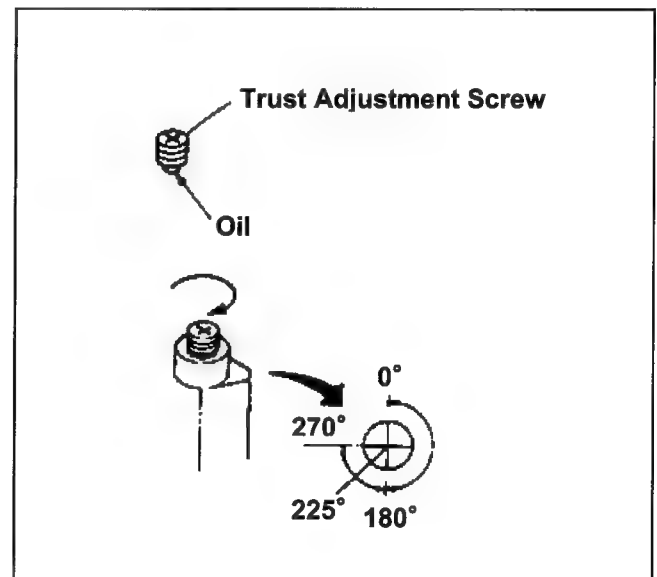

Fig.6-24-2 Adjustment of Thrust Adjustment Screw
5. Turn the Trust Adjustment Screw an another angle of 270° from 180° (about 225°) clockwise as shown in Fig. 6-24-2.